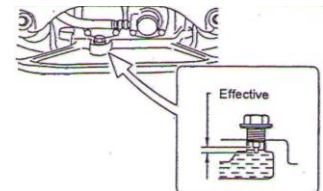

Figure 1
5. Remove the oil plug in the exciter base and check the oil level. Make sure the compactor is level when checking. The oil level should be up to the oil plug. Every month or every 200 hours of operation replace the oil. (Fig.1)